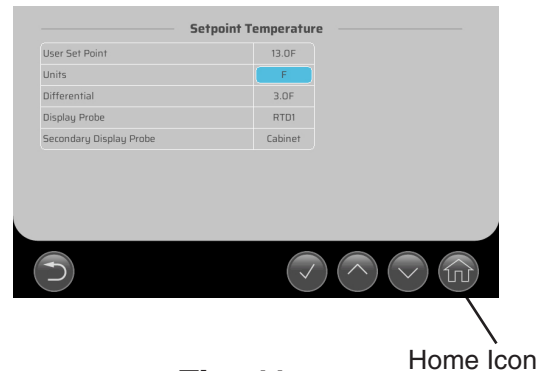

Fig. 11
- f) Press the home icon to return to the touchscreen setup view. See Fig. 11.